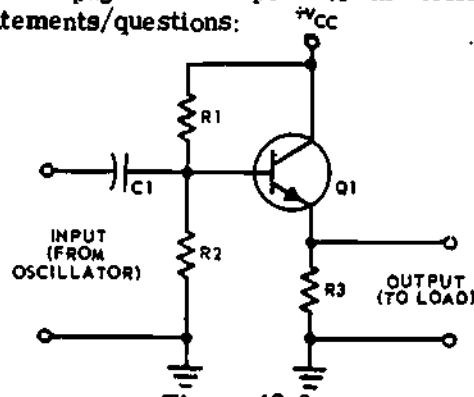

Figure 43-3
1. The correct name of the circuit of figure 43-3 is a _____ amplifier. Its purpose is to (provide a large voltage) (isolate the oscillator from load changes).
2. The common (base) (collector) (emitter) configuration of the figure 43-3 circuit provides a (high) (low) input impedance, and the output load resistor can be selected to match the (input) (output) impedance of a circuit which follows it.